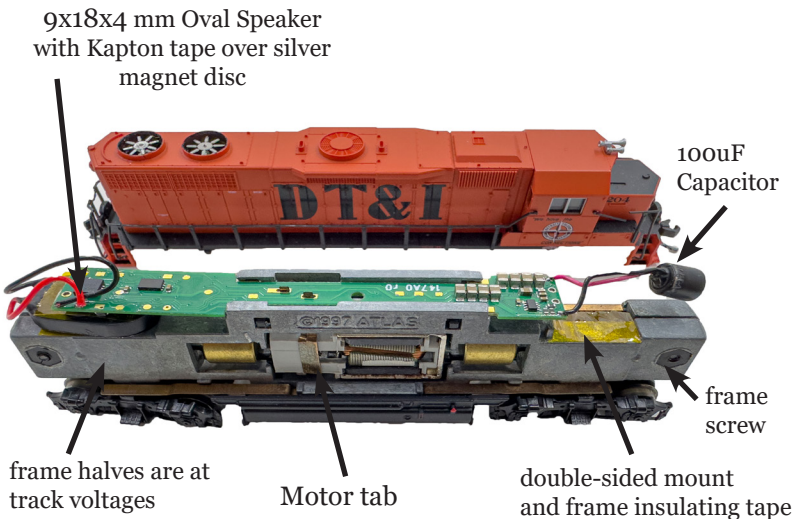

Figure 1: SDXN147A0: Atlas N GP38 loco with decoder
4. Align and place the decoder in to the top of the frames, and then move frames back together as shown in Figure 1. When all is secure, re-tighten the two frame screws. Take care motor tabs do not short to frames.